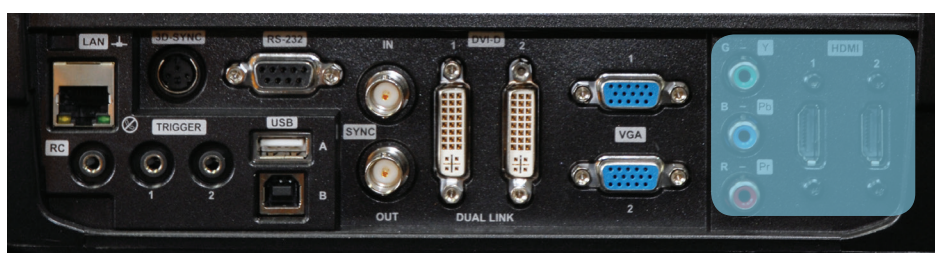

Figure 5-3. Connecting a video source
The projector can be ceiling mounted using an approved UL tested/ listed ceiling mount fixture, with a capacity of minimum 160 kg / 353 lbs. For ceiling mount use M6 screws that penetrate maximum 12 mm / 0.5" into the projector body. Figure 5-3 gives detailed information about the alignment of the ceiling mount screw holes in the projector.
For best quality video, connect a digital video source using the HDMI 1.3a interface (O), see Figure 5-3. The HDMI input is HDCP copy protection compliant. Depending on cable quality, the projector is supporting the use of cables with lengths up to 20 meters (65 feet).
The projector may be connected to up to six computer sources simultaneously, using the HDMI (O), DVI-D (J) or VGA (K) interfaces, shown in Figure 5-3/Figure 5-4. The digital interfaces (DVI/HDMI) will yield a projected image with very low noise.